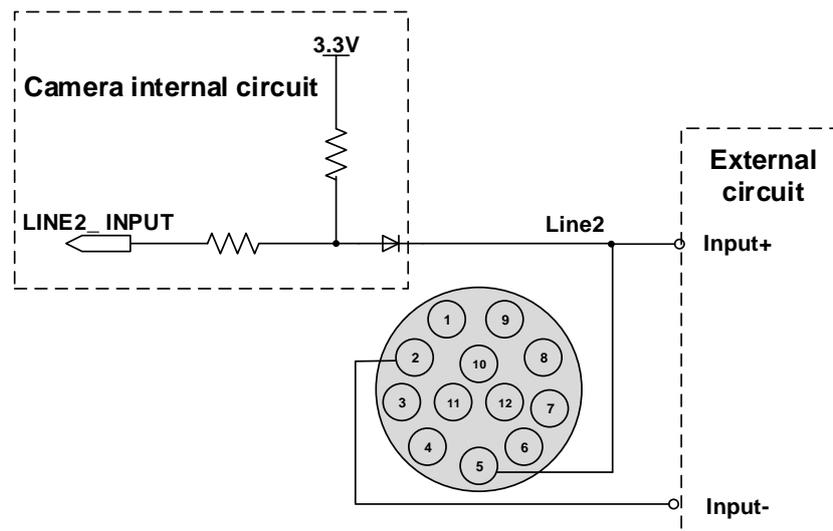

Figure 7-9 Internal equivalent circuit of camera when Line2 is configured as input
- When Line2 is configured as input, the internal equivalent circuit of camera is shown in Figure 7-9, taking Line2 as an example